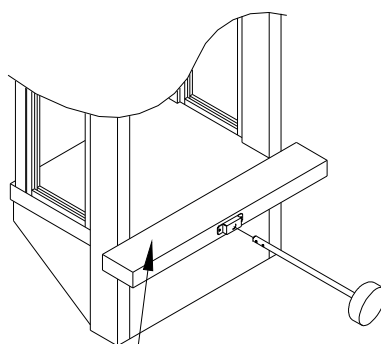

FIGURE 9
2. From the inside, slide the push-pad assembly through the guide block into the bottom of the window. (Figure 9)